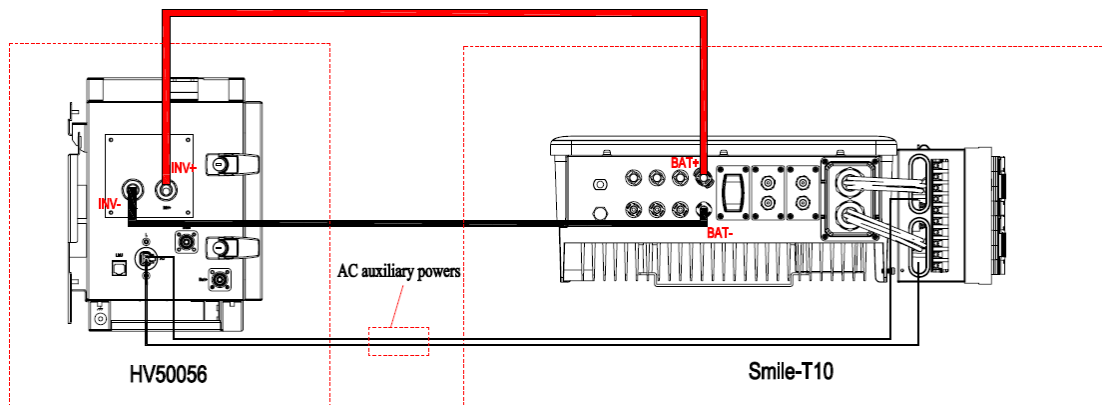

Figure 26 Connection of the Power Cables and AC Auxiliary Cable
Step 16: Please connect one DC power cable from INV+ port on HV50056 to BAT+ port on SMILE-T10-INV, and another DC power cable from INV- port on HV50056 to BAT- port on SMILE-T10-INV. The AC auxiliary power cables which have been prewired onto the inverter, shall be connected to the AC auxiliary port on HV50056, as shown in Figure 26.